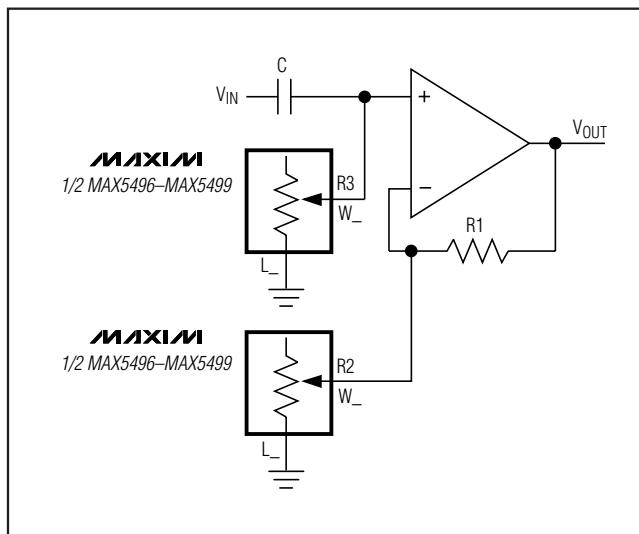

Figure 14. Programmable Filter
Figure 14 shows the configuration for a 1st-order programmable filter. The gain of the filter is adjusted by R2, and the cutoff frequency is adjusted by R3. Use the following equations to calculate the gain (G) and the 3dB cutoff frequency (f_C).